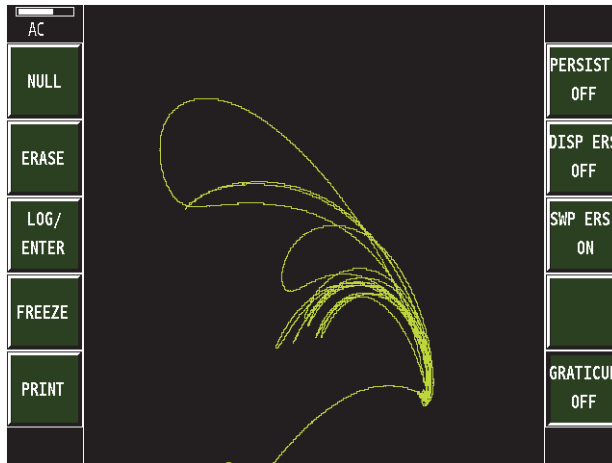

Figure 4-3 Second layer crack detection
6. Turn off the screen graticule. Press the **DISP** function key, followed by the **D ERASE SETUP** soft key, and then the graticule (**GRATICUL**) soft key. Rotate the SmartKnob until **OFF** appears in the **GRATICUL** box. The display should look similar to Figure 4-3 on page 72. These settings are only guidelines. Some fine tuning may be necessary. This can be accomplished using the **GAIN**, **ANGLE**, and SmartKnob.